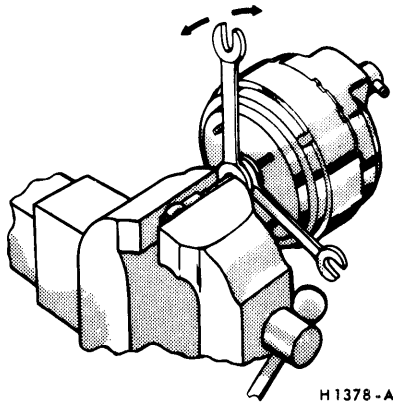

FIG. 26—Removing Valve Rod and Poppet Assembly
2. Clamp the valve rod in a vise (Fig. 26), leaving just enough space between the steel retainer on the plastic valve hub and the side of the vise jaw for two medium-sized, open-end wrenches. Use the wrench nearest the vise as a pry to force the valve plunger off the ball end of the valve rod (Fig. 26).